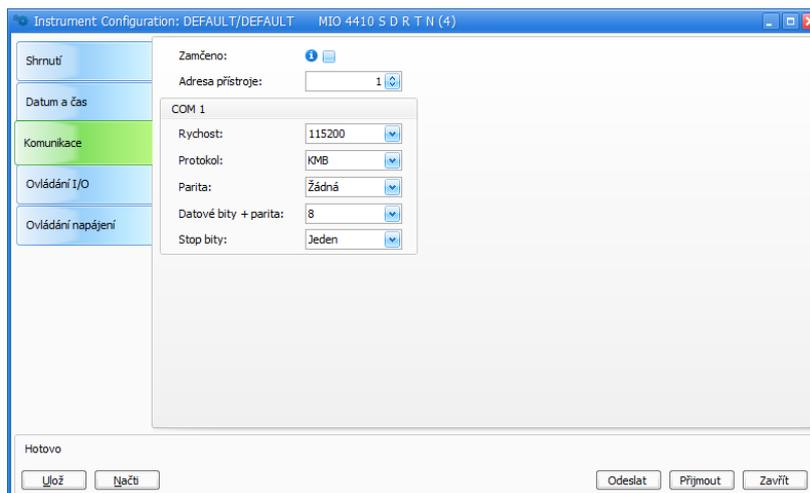

Figure 7: ENVIS.Daq — setting of communication line parameters.
- 2.4.1 Communication (fig. 7) 9
2.4.1 Communication (fig. 7)